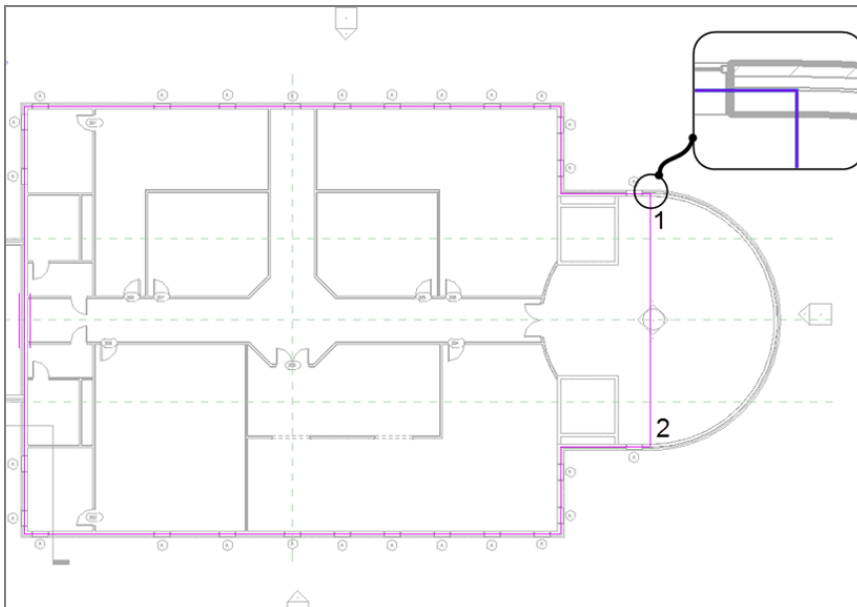

FIGURE 6.27: Sketching a line for the east portion of the entry slab
- 4.** Draw a line from the endpoint of the magenta line at the north wall of the east entry (see 1 in Figure 6.27) to the endpoint of the magenta line in the south wall (see 2 in Figure 6.27).